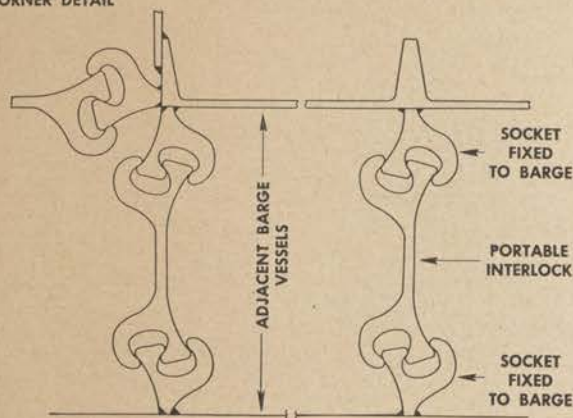

Figure 20. Interlocking system.
(2) Two lifting eyes are provided on each side of each section and a hoisting bridle assembly is furnished for hoisting the sections in place.
(3) The barge sections, or vessels, are joined together by a series of interlocking connections of the same type as sheet piling. In this method, vertical fixed sockets are welded to the sides of the vessels. On adjacent vessels, the spacing of the sockets is such that with the vessels in proper position, the sockets match in pairs. For each such pair of sockets, a portable interlock connection is provided. One hundred and six interlock connections are furnished for permanent connections. These are narrow vertical sheets, on each edge of which are jaws which engage and interlock with the jaws of the fixed sockets of the vessels. To make the connection, the jaws are engaged at the ends of the strips and the portable connection is slid down between the two fixed sockets. A stop plate runs longitudinally near the bottom of the vessel to hold and align the lower ends of the portable connections. (See fig. 20.) When assembling barge it may be necessary to drive wedges between interlocks and sockets to hold them in place until interlocks are permanently fastened.
(5) Hoist each portable connection above, and in line with, its pair of fixed sockets. Engage the jaws of the connection with the jaws of the sockets where the lower end of the connection touches the upper ends of the sockets as shown in figure 20.
Caution: Take care to interlock properly each connection and its sockets exactly in the manner shown in figure 20. If interlock is inserted in the reverse position, it will not only jam but will throw the other sockets out of line.